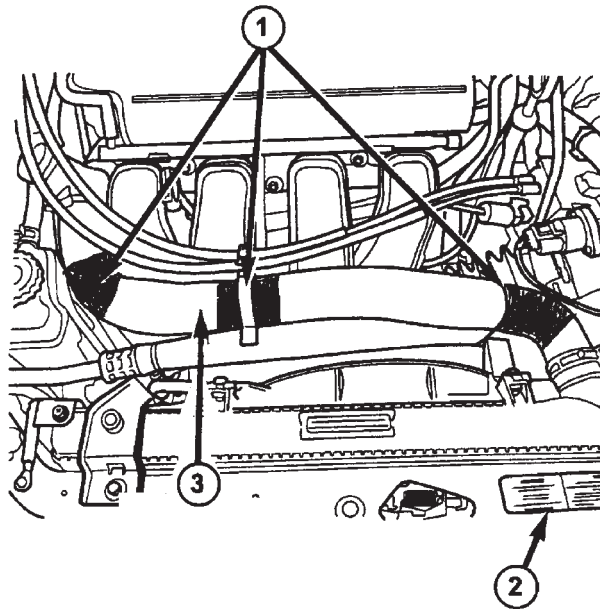

FIGURE 3
7. Install the radiator hose sleeve (05017627AA) by sliding the braided sleeve over the hose. Secure the hose with the three rubber bands provided (Figure 3).
- 12. Install the new A/C underhood specification label (p/n 05264840AC) over the existing label (Figure 3).